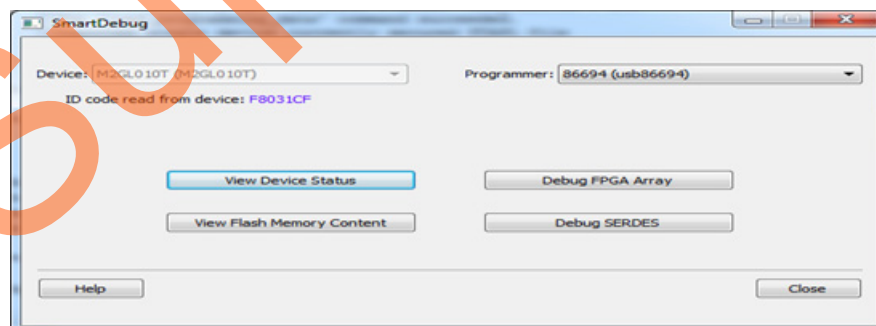

Figure 10 • SmartDebug Window
1. Open **Libero Project**, go to **Design Flow > Debug Design** and double-click **SmartDebug Design**. The **SmartDebug** window is displayed, as shown in Figure 10.